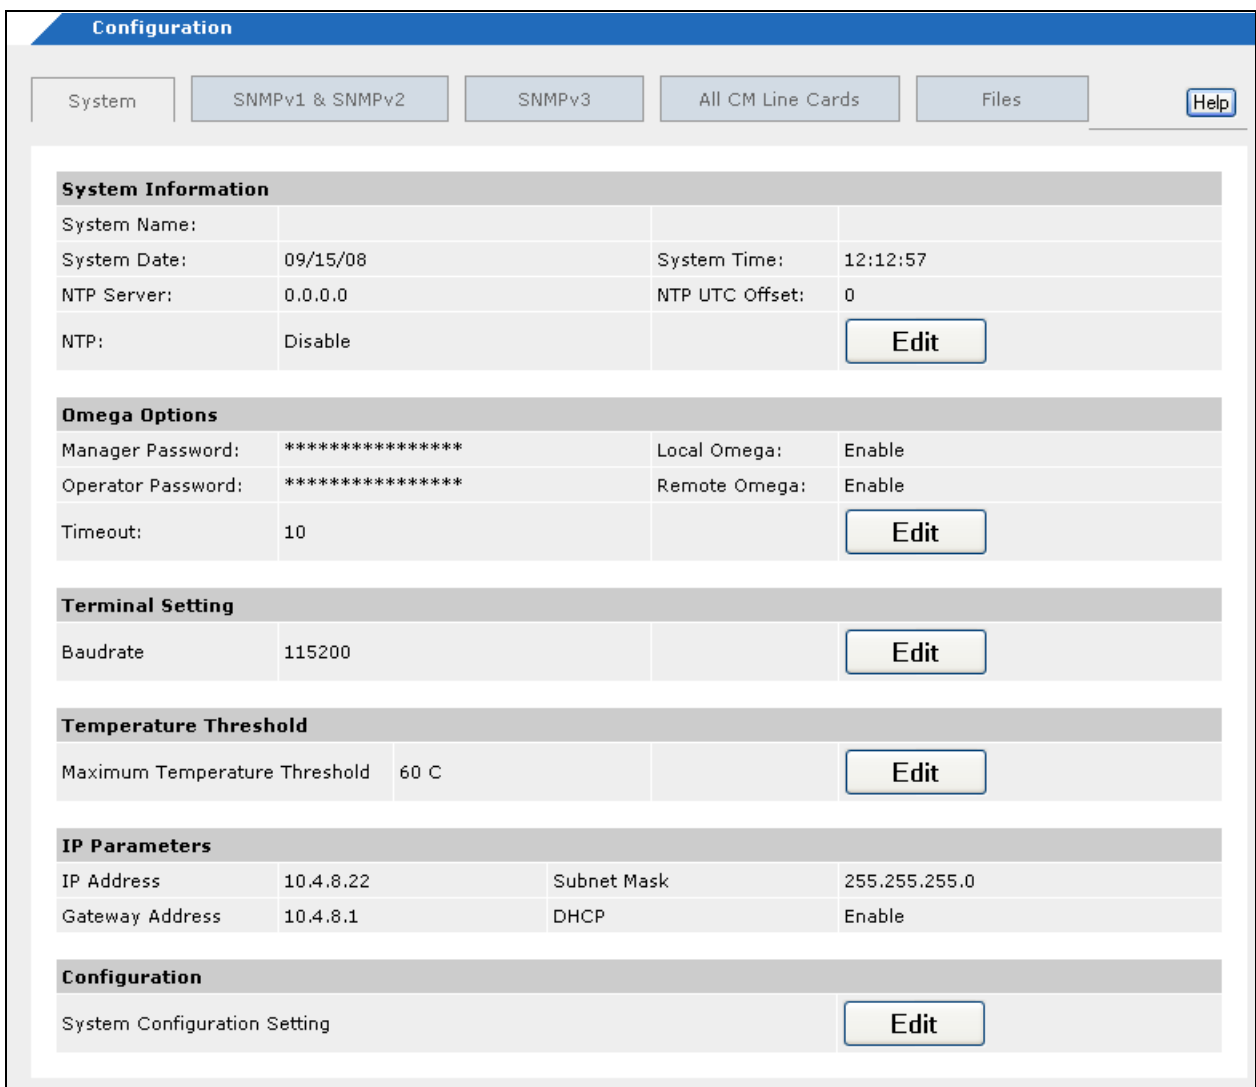

Figure 30. System Tab
2. If the **System** tab is not selected, select it. The System tab is shown in Figure 30.
2. If the **System** tab is not selected, select it. The System tab is shown in Figure 30 on page 103.